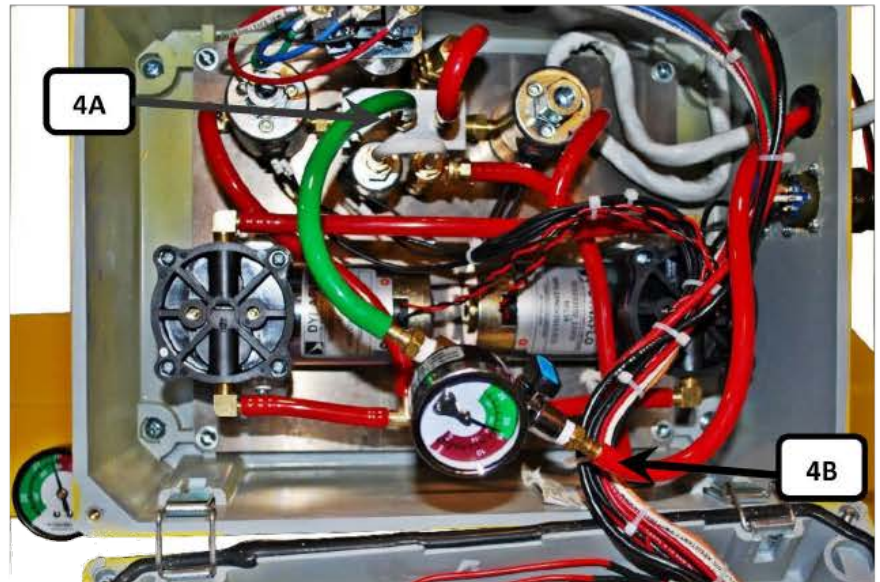

FIGURE 4
Note: Various models of vacuum pumps have been used in our assemblies. Although your vacuum pump (shown in **FIGURE 4**) may be different from the one shown, the fittings and connections will be the same.
The other variation that may be noted is that the manifold assembly shown in **FIGURE 4** has two hose nipples located on the top of the manifold and a check valve located next to the vacuum switch. This is the design used in this assembly beginning with S.N. 20101140.
Attach the other end of the ball valve to the hose, **4B**, which was removed from the manifold. See **FIGURE 4**.
- 3) With the ball valve in the open position (handle in line with the valve) turn on the lifter and switch the lifter to the apply position. Allow the system to reach a suitable vacuum level or to shut off automatically, then close the ball valve (handle turned perpendicular to the valve as shown in **FIGURE 4**) and turn the lifter off at the power switch.